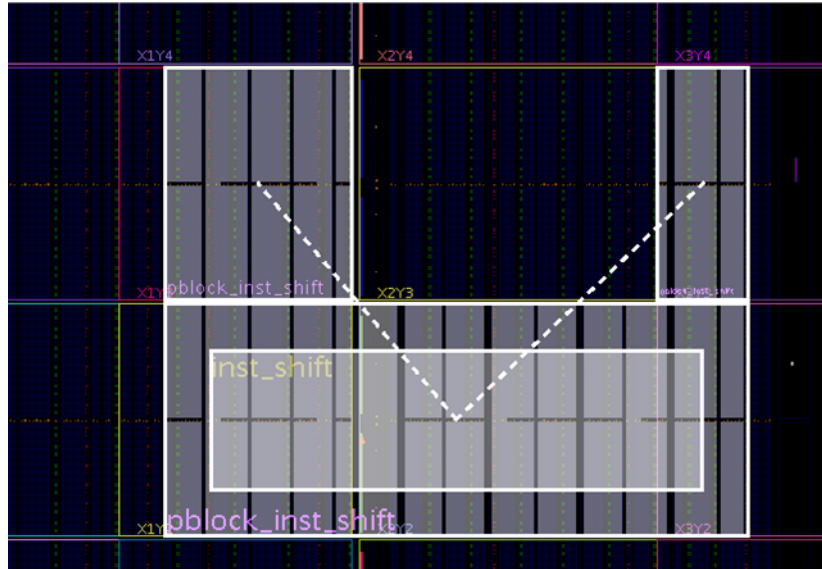

Figure 7-5: Unsupported Pblock with clock_region Gap
4. Do not create U or H shaped Pblocks with large gaps that span an entire clock_region, as shown in Figure 7-5 below.